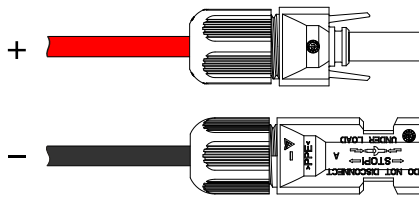

Figure3-38 Tighten the lock nut
- Step 4 Tighten the locking nuts of the positive and negative connectors to corresponding insulating shells, as shown in Figure3-38.